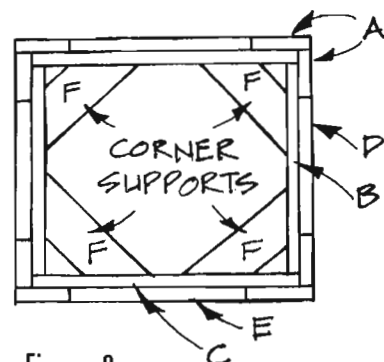

Figure 6
9. Referring to *Figure 6*, attach the mitered corner supports (F), making sure that they are flush with the top edges of the assembled frame. Screw through the edges of the corner supports (F) at an angle (toenail) into the front, back, and side connectors (B and C).